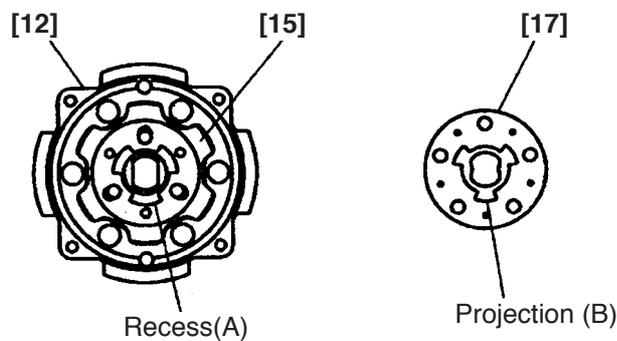

Fig. 10
③ When installing the Carrier [17], assemble so that recess (A) on the Lock Ring [15] is aligned with projection (B) on the Carrier [17] (be careful of the direction). Then make sure that the flat plane of the spindle faces the flat plane of the Carrier [17]. If assembled in wrong direction, the flat plane of the spindle may be stopped at the position about 2 mm lower than the flat plane of the Carrier [17] (see Figs. 10 and 11).